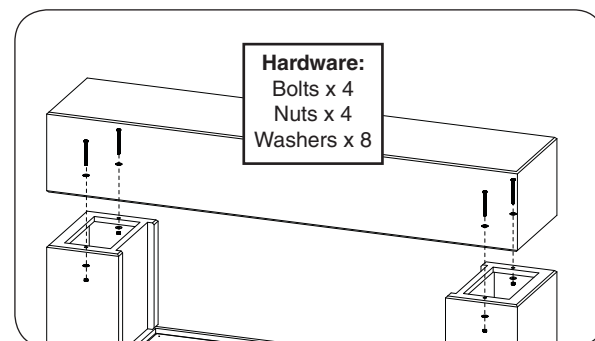

Fig. 20-5 Assemble top piece
2. Place the top piece on top of the side pieces. Carefully align the pilot holes, and repeat the hardware installation process. See Fig 20-5.